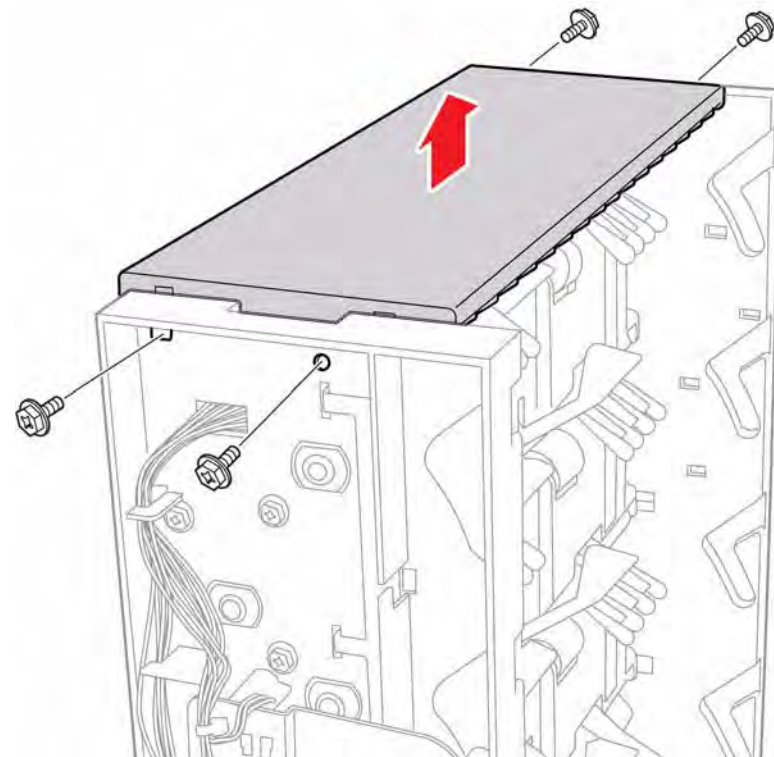

Figure 1 Remove the top cover
5. Remove 4 screws (plastic) that secure the Top Cover to the Mailbox, Figure 1.